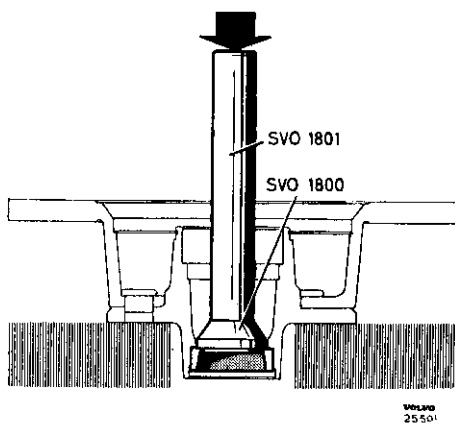

Fig. 11. Removing the outer bearing ring.
5. Remove the bearing rings. For the inner bearing ring, use drift SVO 1799 (Fig. 10) and for the outer bearing ring, drift SVO 1800 (Fig. 11) together with standard handle SVO 1801.